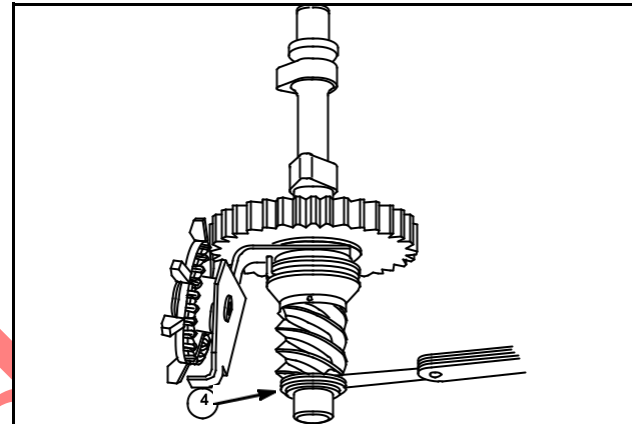

Fig. 55 – Check Cam Gear
Check worm gear end play using feeler gauges at point (4), Fig. 55. End play should not be less than .004" (.10 mm), or more than .017" (.43 mm).